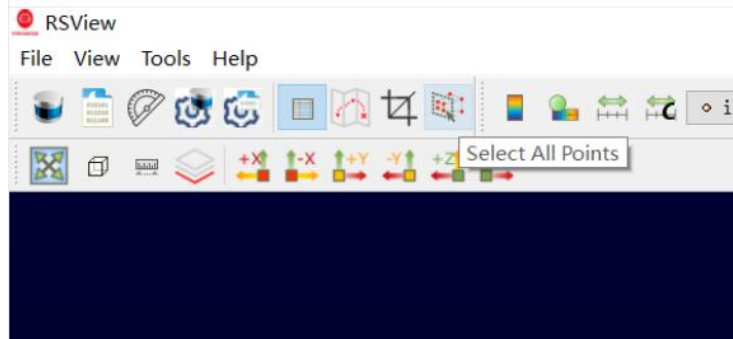

Figure A-17 RSView Select All Points tool
8. Click the **Select All Points** tool, your mouse will turn into a data point selection tool (Figure A-17).